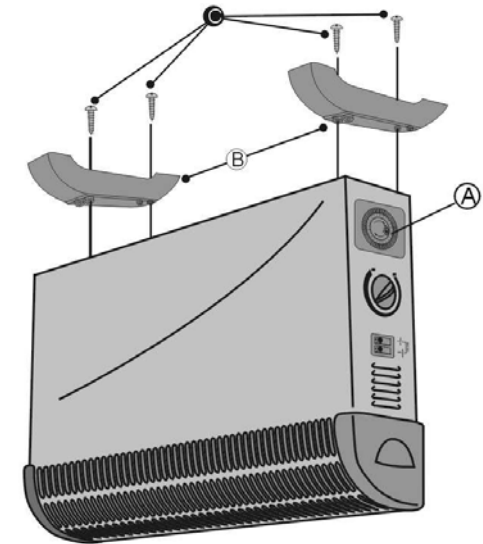

fig. 1
1. Carefully turn the unit upside down. Use the Screws (C) to fix the Feet (B) onto the Heater (A). Take care to ensure that they are located correctly in the bottom ends of the Heater side moldings. See fig. 1.